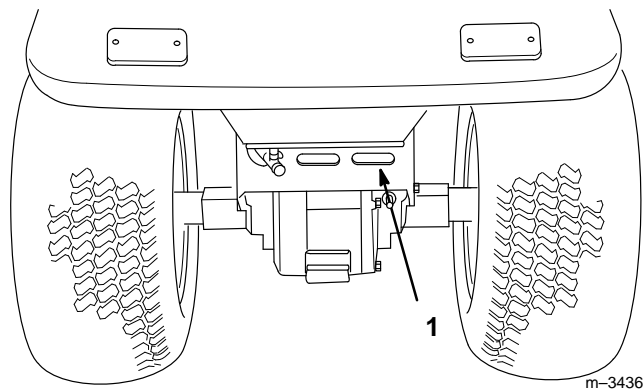

Figure 10
6. The rear transaxle cover is an air intake area for cooling the transaxle. Clean debris from the rear transaxle cover before operating the tractor (Fig. 10).